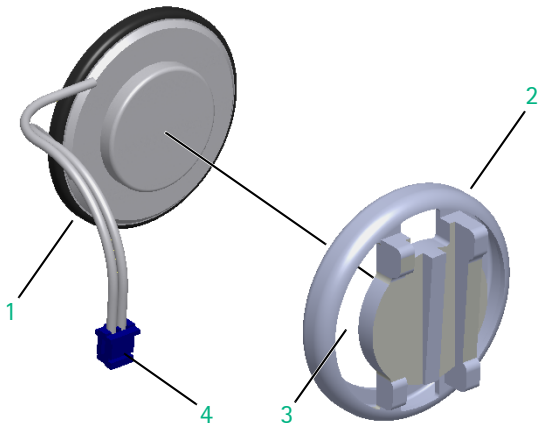

Fig. 3 - 19
2. Completely unlock the speaker bracket (Fig. 3 - 18 / Item 2) and tilt it towards the interior of the unit.